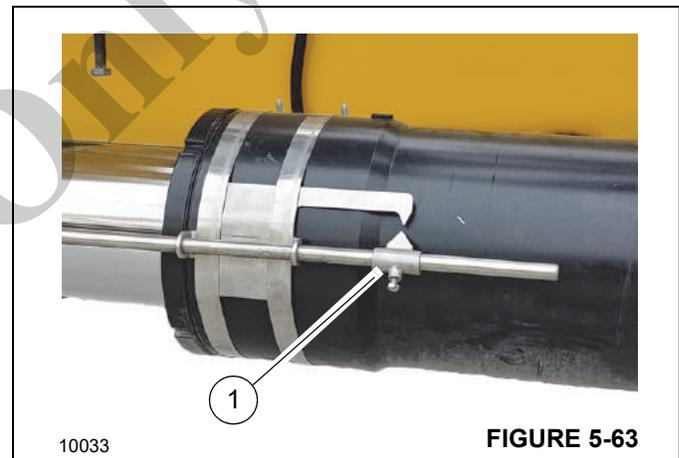

FIGURE 5-63
- If stowing an optional hydraulic boom extension, make sure the angle indicator (1, Figure 5-63) is aligned. If the arrows are not aligned, adjust the boom extension offset as needed to align the arrows. For more information, see *Offsetting the (Optional) Hydraulic Boom Extension*, page 5-57.